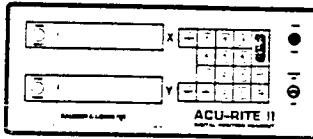

Figure 4
4. Push the ABS key (Figure 4). The light will go out, changing the console to the incremental mode. The power-fail indicator(s) will light again, indicating that the power-fail/fault circuit of the incremental mode is working properly.
6. Make the proper selection on the INCH-mm switch (Figure 4) to be certain that measurements will be made and displayed in the correct dimensions (inches or millimeters).